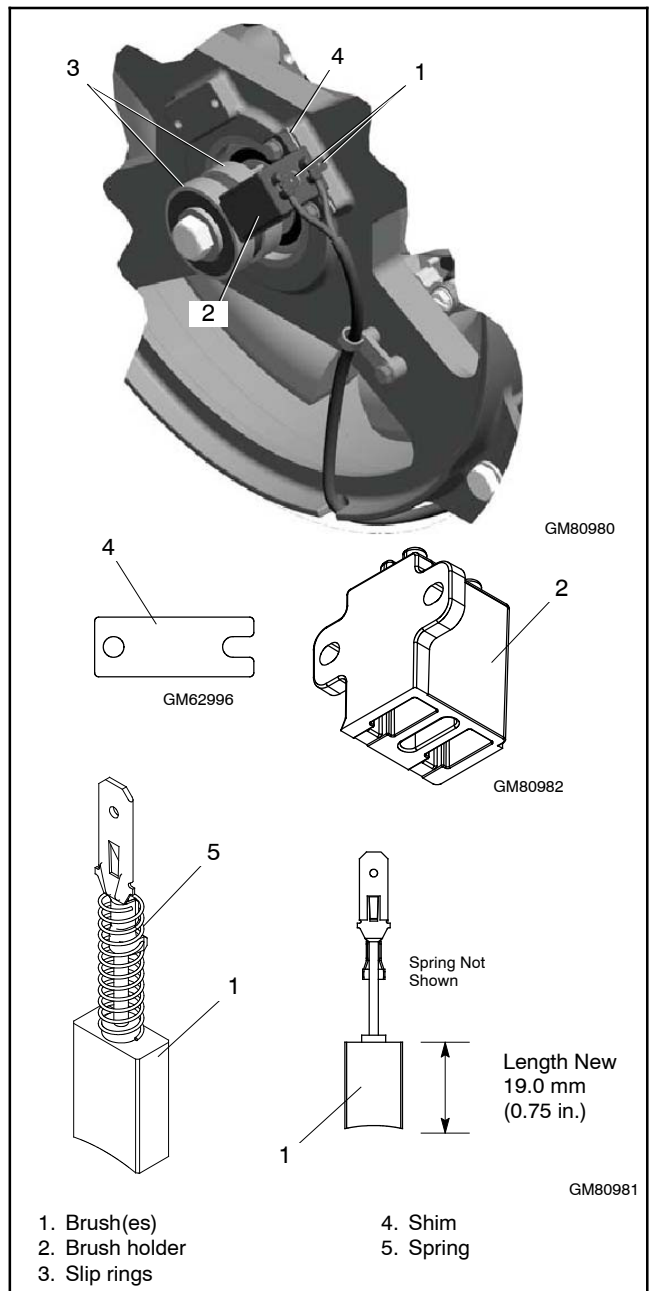

Figure 7-33 Brush Assembly (revised)
- c. Verify that the brushes are centered on the slip rings. If required, insert spacers between the mounting surface and brush holder to center the brushes on the slip rings. See Figure 7-33. See Section 6.6, Brushes, for more information.